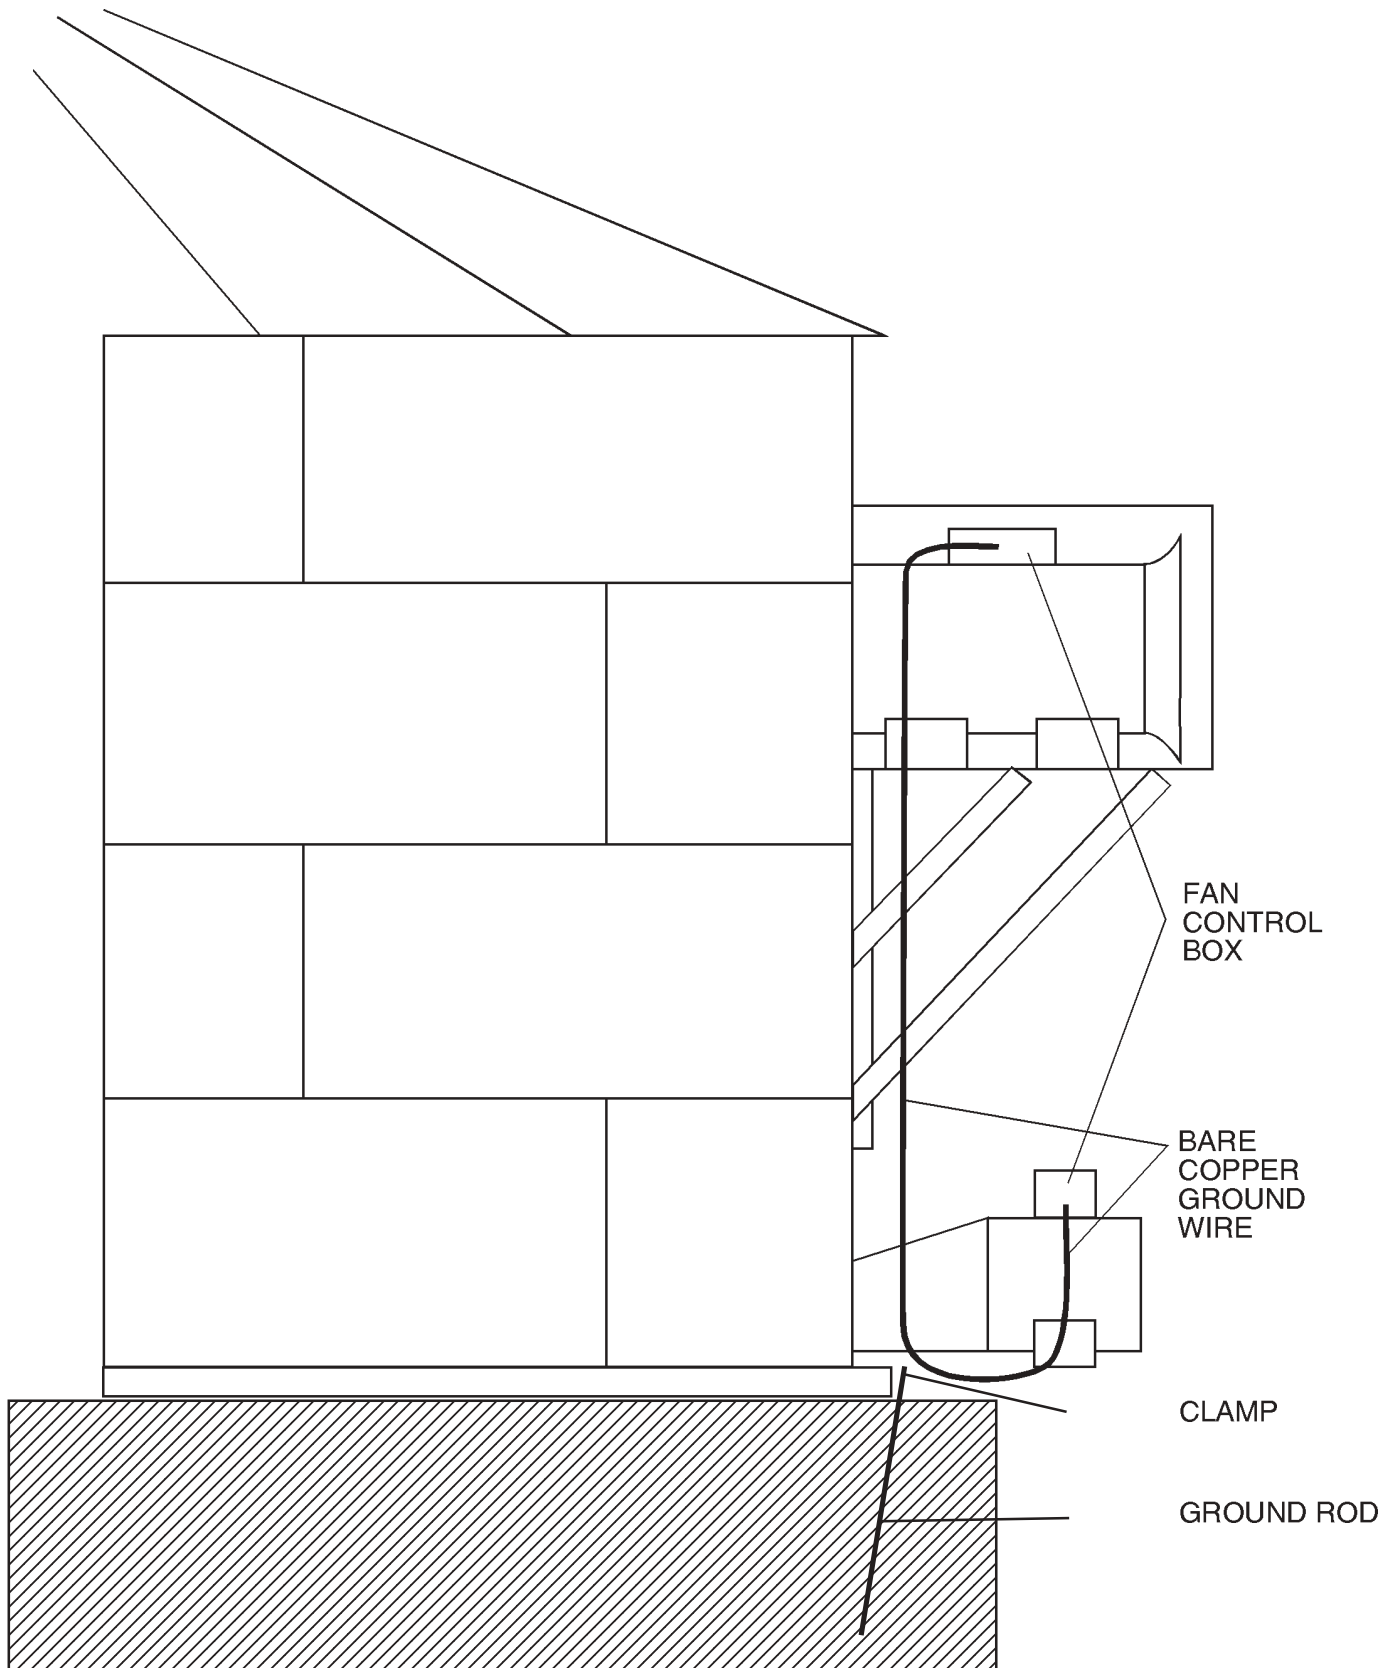

Figure 12: The Top Dry and ground rod attachment illustration.
5. Connect the bare, copper ground wire to the rod with the proper ground rod clamp. See Figure 12.